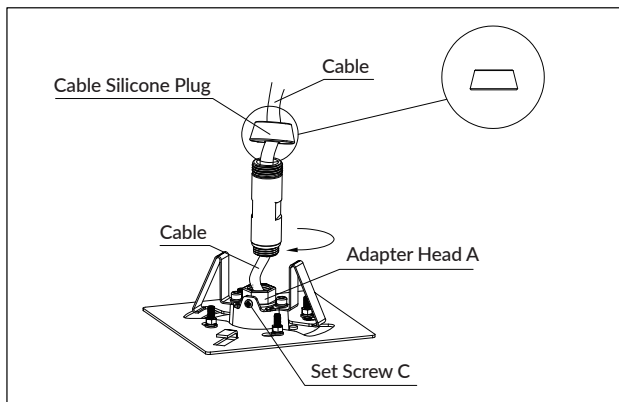

Figure 9
- Feed the Luminaire Cable through the Conduit from the small end thread and then through the Cable Silicone Plug (Figure 9).
- Thread the Conduit into Adapter Head A on the Luminaire Part (Figure 9).